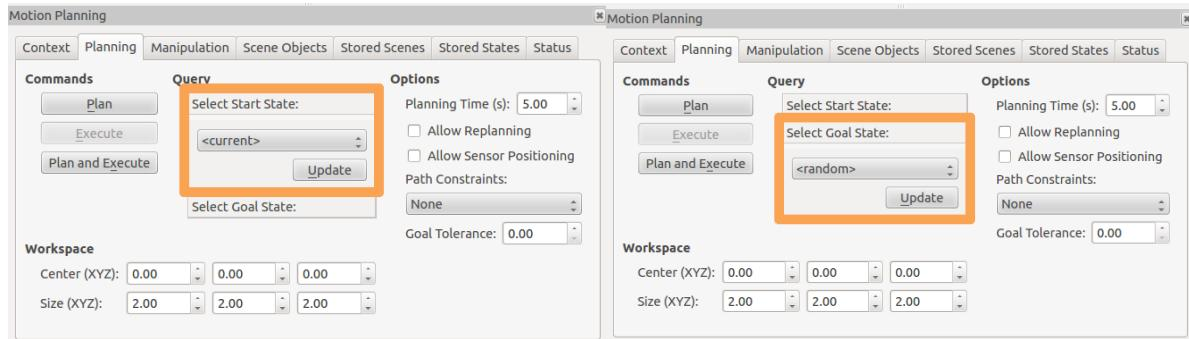

Figure 66: Tab to set start state (left) and tab to set goal state (right).
1. In order to use motion planning, a Start State and Goal State has to be known, to do this with the *MoveIt!* GUI navigate to the tab called “Planning” in the display called MotionPlanning. On this tab, further nested tabs provide the functionality required to update Start State and Goal State depicted in Figure 66.